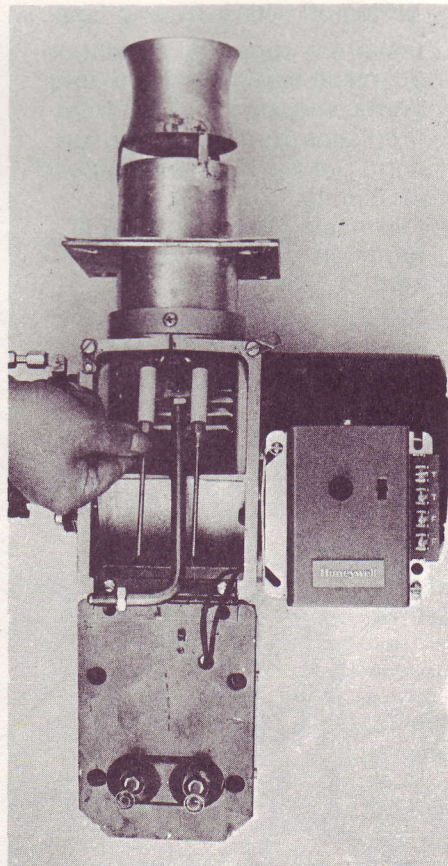

FIGURE 9
2. Remove the combustion head assembly as shown in Figure 9.